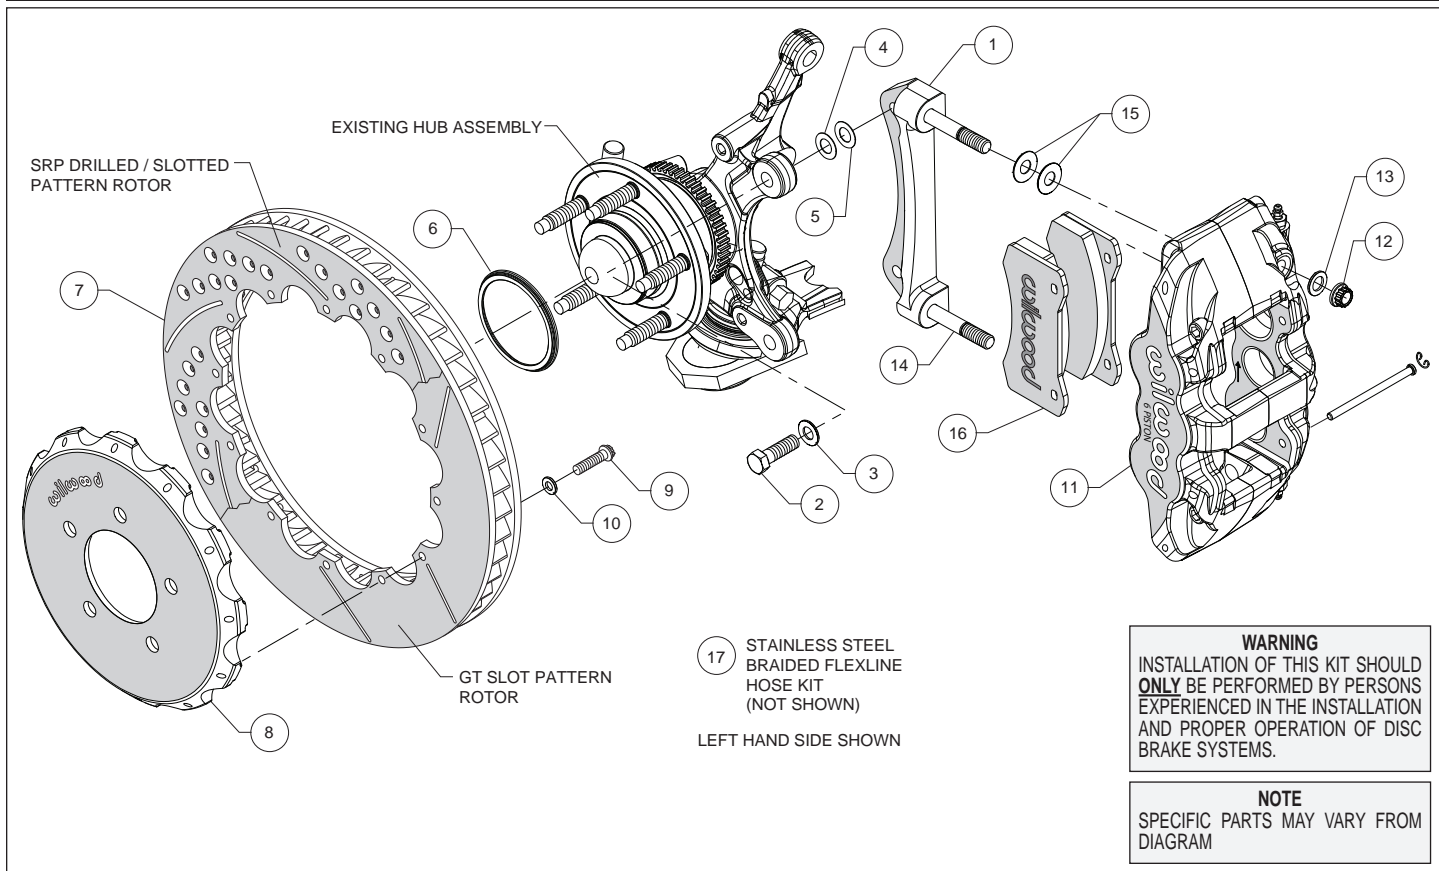
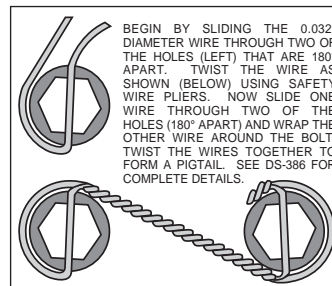

Figure 1. Typical Installation Configuration
Figure 4. Safety Wire Diagram
Assembly Instructions (numbers in parenthesis refer to the parts list and Figure 1 on the preceding pages):
- The caliper mount bracket (1) should initially be installed with clean, dry threads on the mounting bolts. Orient the bracket, as shown in Figure 1 and Photo 1, and install using bolts (2) and washers (3). Initially place one .033" thick shim (4) on each bolt between the bracket and upright, Figure 1. Temporarily tighten the mounting bolts. **NOTE:** *The bracket must fit squarely against the mount bosses on the upright.* Inspect for interference from casting irregularities, machining ridges, burrs, etc. Later, after the caliper alignment has been checked, the mount bolts will be secured using red *Loctite*[®] 271.
- Orient the rotor (7) and the hat (8) as shown in Figure 1 and Photo 2. Attach rotor to hat using bolts (9) and washers (10). Using an alternating sequence, apply red *Loctite*[®] 271 to the threads, and torque to 155 **in-lbs**. For an added measure of security, the bolts may be safety wired using standard 0.032 inch diameter stainless steel safety wire as shown in Figure 4. Refer to Wilwood's data sheet DS-386 (available at www.wilwood.com/Pdf/DataSheets/ds386.pdf) for complete safety wire installation instructions.
- Slide the rotor registration adapter (6) onto the axle hub with the smaller O.D. facing toward the rotor/hat, Figure 1 and Photo 3.
- NOTE:** *This kit contains distinct right and left hand calipers that must be mounted in a specific direction, as described below.* Lubricate the caliper mounting studs (14) with lightweight oil.
Initially place two .030" thick shims (15) on each stud between the caliper and the bracket, as shown in Figure 1 and Photo 4. Mount the caliper (11) onto the bracket (1) using lock nuts (12) and washers (13), Figure 1. Temporarily tighten the lock nuts. Ensure that the caliper is mounted so the largest pistons are at the rotor exit end of the caliper, in relation to the direction of the rotor. View the rotor through the top opening of the caliper. The rotor should be centered in the caliper, Photo 5. If not, adjust by adding or subtracting shims (4 and/or 5) between the bracket and the upright. Always use the same amount of shims on each of the two mounting bolts.
- Remove the two pad retaining pins from the caliper (11) by carefully popping out the pin retaining clips and sliding out the pins. Insert the brake pads (16) into the caliper from the bottom, Figure 1 and Photo 6. With the friction material facing the rotor, secure the brake pads in place with the pad retaining pins and clips, Photo 7. Reinstall the caliper onto the caliper mounting bracket and temporarily tighten the lock nuts. Check that the top of the brake pad is flush with the outside diameter of the rotor, Photo 8. If not, adjust by adding or subtracting shims (15) between the caliper and the bracket. After the caliper pad height is set, torque the caliper lock nuts (12) to 47 ft-lb.
• **NOTE:** OEM rubber brake hoses generally cannot be adapted to Wilwood calipers. The caliper inlet fitting is a 1/8-27 NPT. Install Wilwood's stainless steel braided flexline hose kit (17), P/N 220-9111 included with this kit. **Carefully route hoses to prevent contact with moving suspension, brake or wheel components.** **NOTE:** Wilwood hose kits are designed for use in many different vehicle applications and it is the installer's responsibility to properly route and ensure adequate clearance and retention for brake hose components.